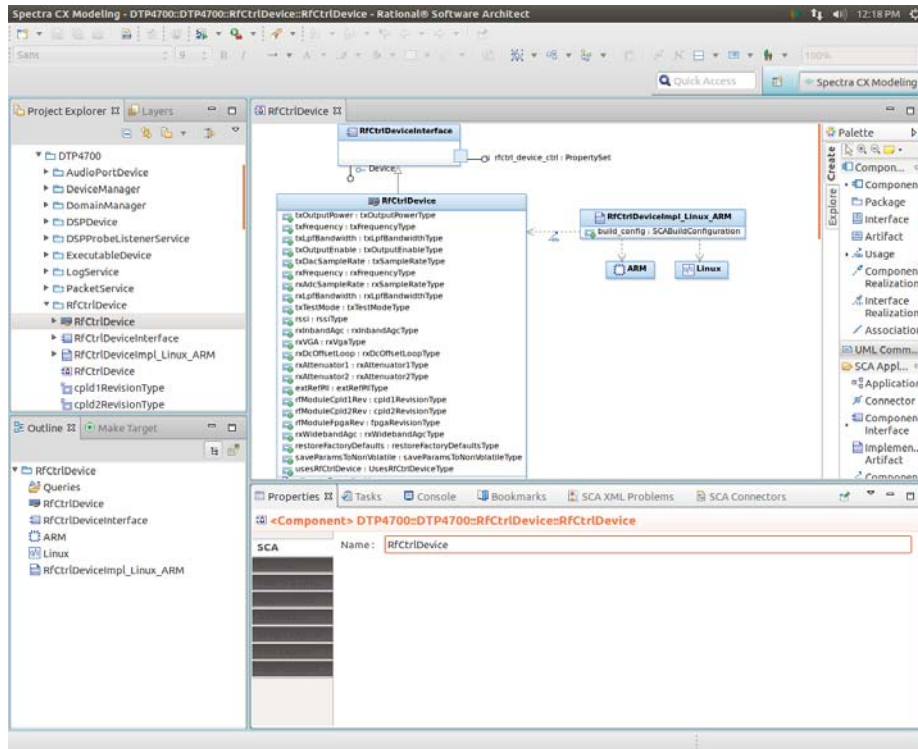

Figure 11 RfCtrlDevice component definition
- Step 1:** Using Spectra CX, expand the DTP4700 model project folder in the Project Explorer view. Then expand the DTP4700 platform model folder, and the DTP4700 > `RfCtrlDevice` folders to display the model elements that make up the `RfCtrlDevice` component definition. Double-click the diagram element named `RfCtrlDevice` contained within the `RfCtrlDevice` package. This will display the diagram for the `RfCtrlDevice` component definition as in *Figure 11*.